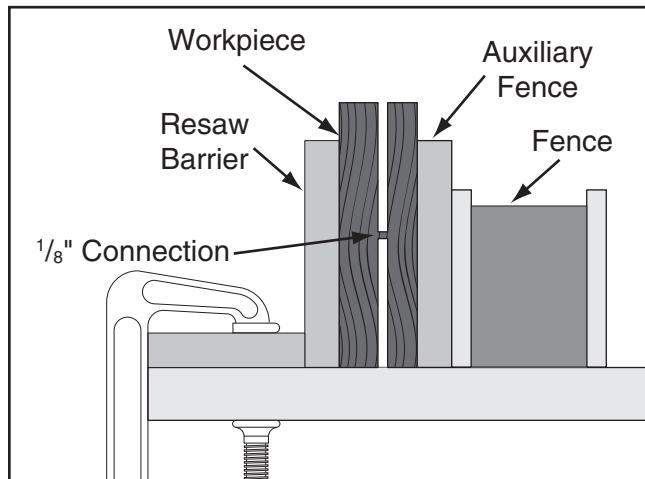

Figure 76. Ideal completed resaw cut.
10. Repeat **Steps 7–9** until blade is close to half the height of board to be resawn. The ideal completed resaw cut will leave a $\frac{1}{8}$ " connection when resawing is complete, as shown in **Figure 76**. Leaving a $\frac{1}{8}$ " connection will reduce risk of kickback.